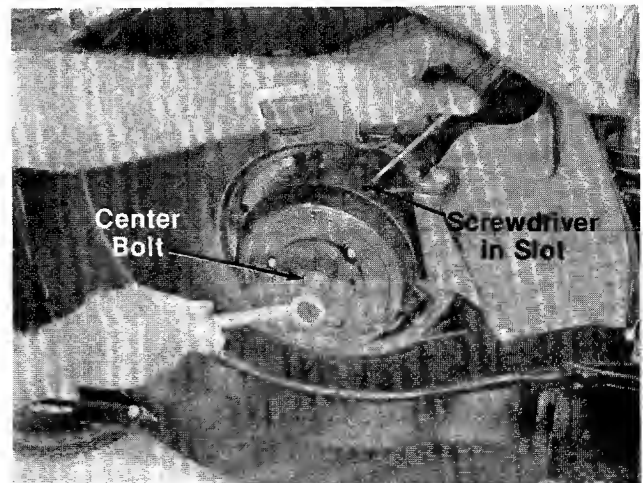

FIGURE 29.
- a. Insert a screwdriver into the slot provided in the blade brake/clutch housing where the control cable enters housing. See figure 29.